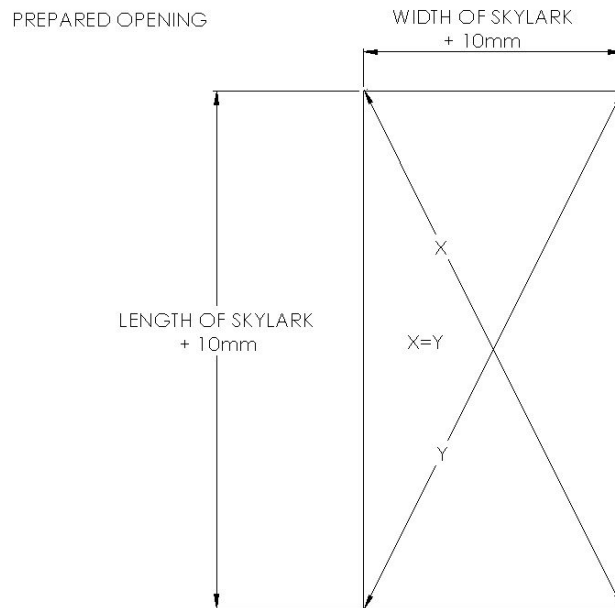

Fig.2.
2. Then mark the length of the opening by measuring the skylark frame and add 10mm (3/8" to 1/2") to the length and 10mm (3/8" to 1/2") to the width, and mark it onto the ceiling using a pencil. Ensure that the proposed new opening is square. See *Fig.2*.